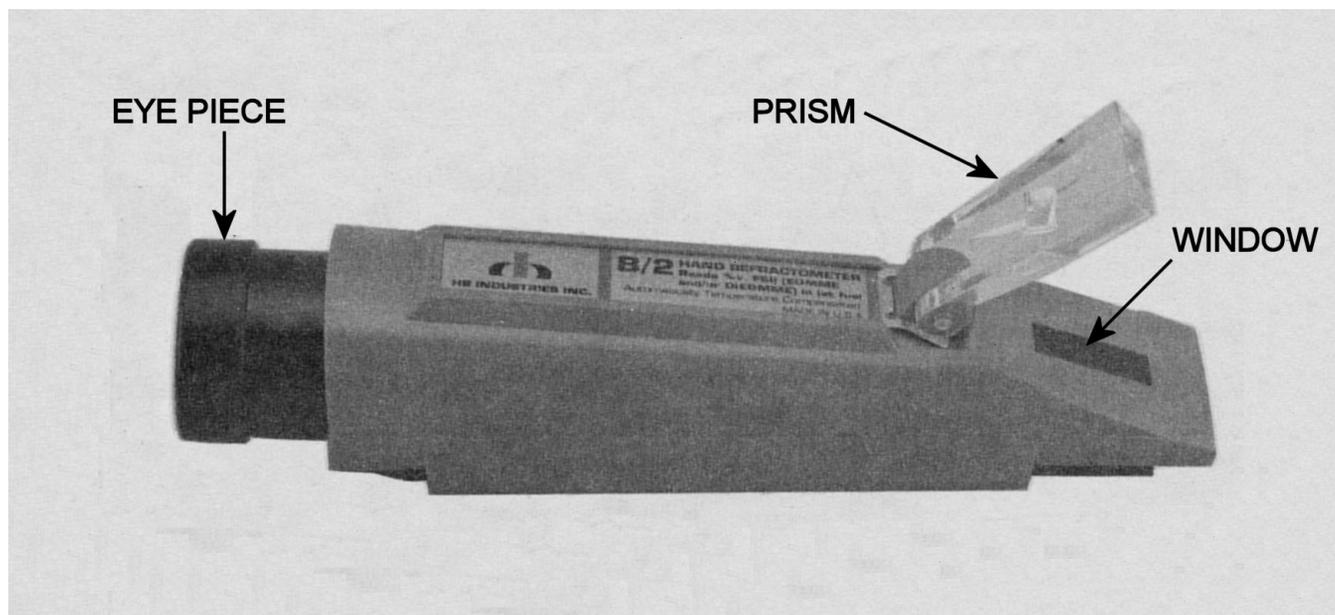

Figure 1-14.—Refractometer.
The name refractometer tells you how it works. By the prism on the front (fig. 1-14), light is refracted through the sample being tested onto the scale inside the refractometer. The refractometer is to be used in the quality surveillance lab, not on the flight deck or on the sponson. The light source can be a fluorescent or incandescent bulb, but the area must be well lighted. Detailed instructions are provided with the test kit, the following procedures summarize the operation of the kit.
8. Open the hinged prism cover of the refractometer's window (fig. 1-14); make sure the window and prism are clean. Place several drops of tap water on it from the aluminum dish using a piston pipet, close the cover and look through the eyepiece. Observe